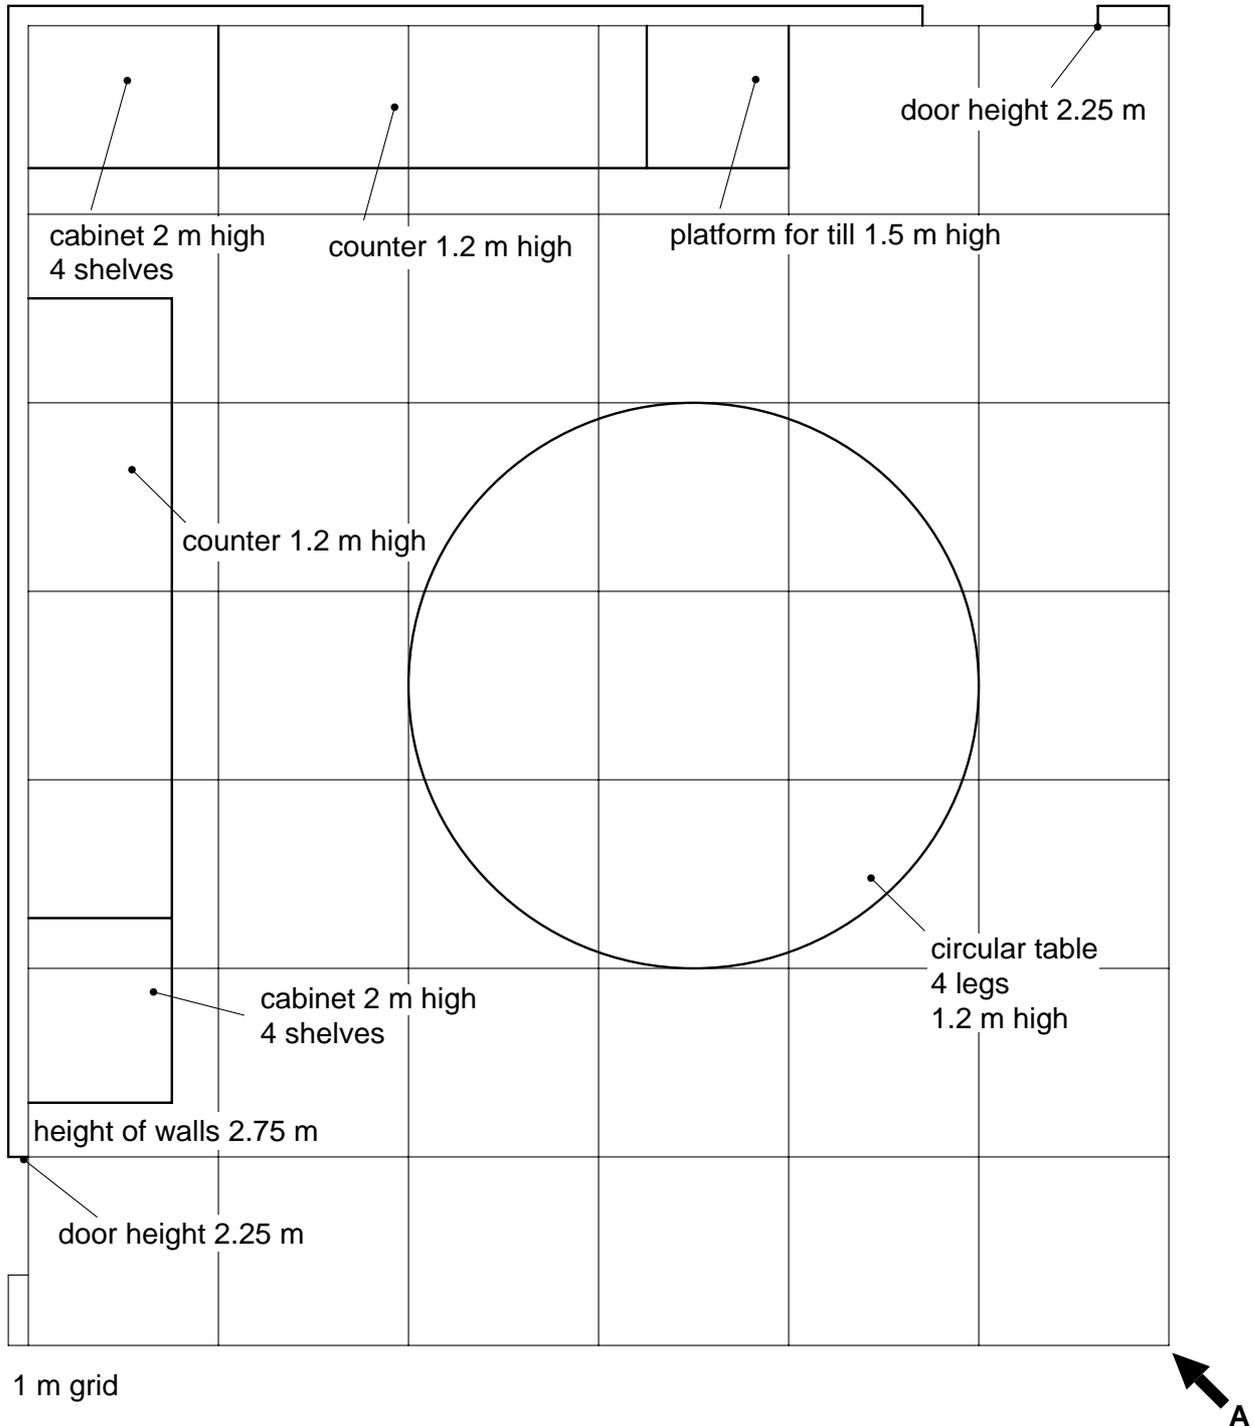

Fig. 5
- 7 Fig. 5 shows a plan view of the design of a 'Coffee Shop' to be used by senior students school.